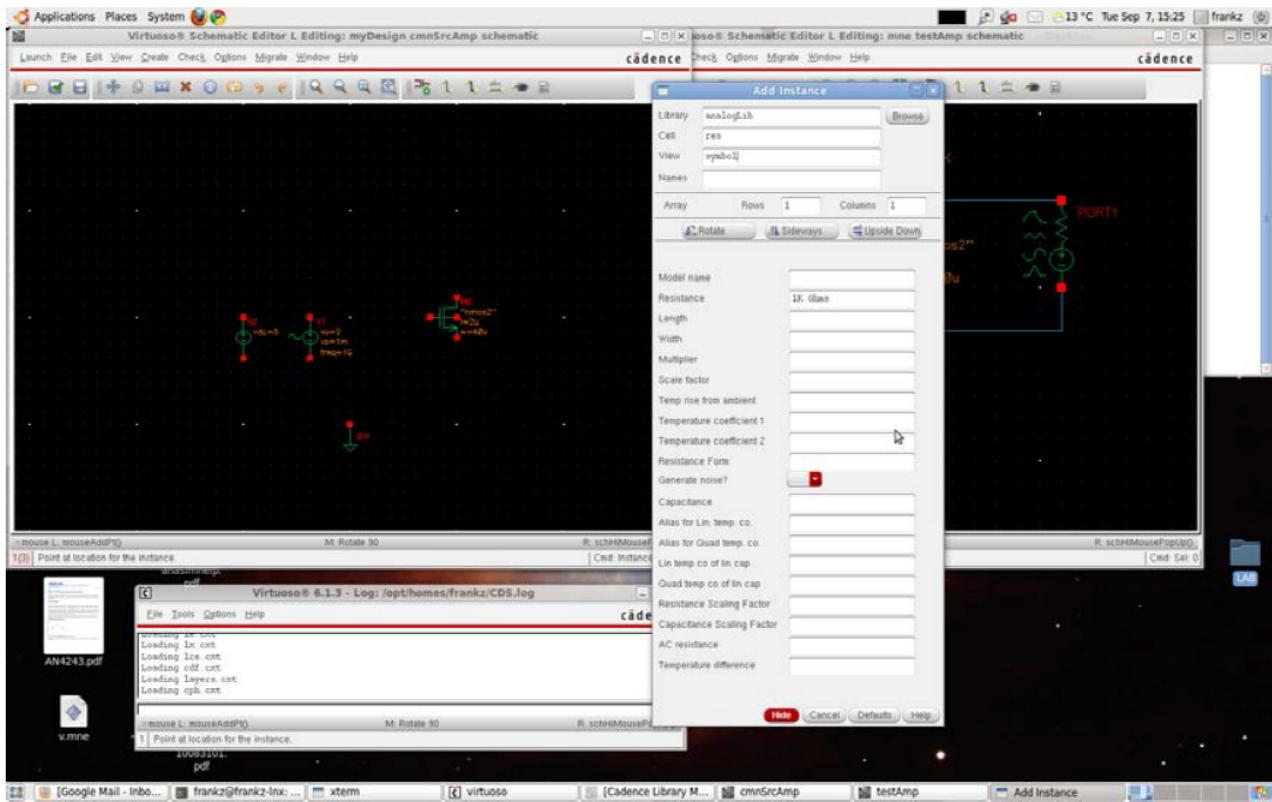

Figure 8: Adding the resistor "res"
- Step 8: Add a resistor - follow steps 1-3 to add "vstin" object from the analogLib library as shown in Figure 8. Fill out the parameter value resistance as per Figure 8. Click on the schematic window to place the component.